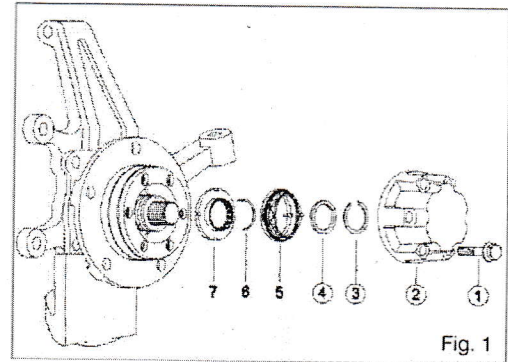

Fig. 1
a) Remove original parts (1 through 7) as shown right. (Fig. 1)